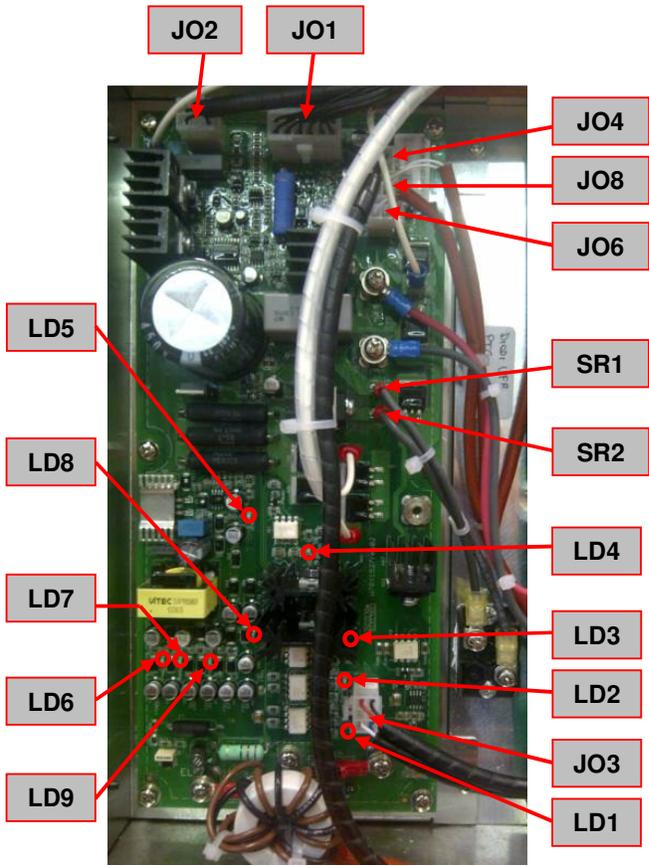

Figure 13 – W05X1527 OUTPUT Board Test Points
5. Perform the tests detailed in **Test Table 9**. See **Figure 13** for Test Point locations:
8. Perform the tests detailed in **Test Table 10**. See **Figure 13** for Test Point locations: